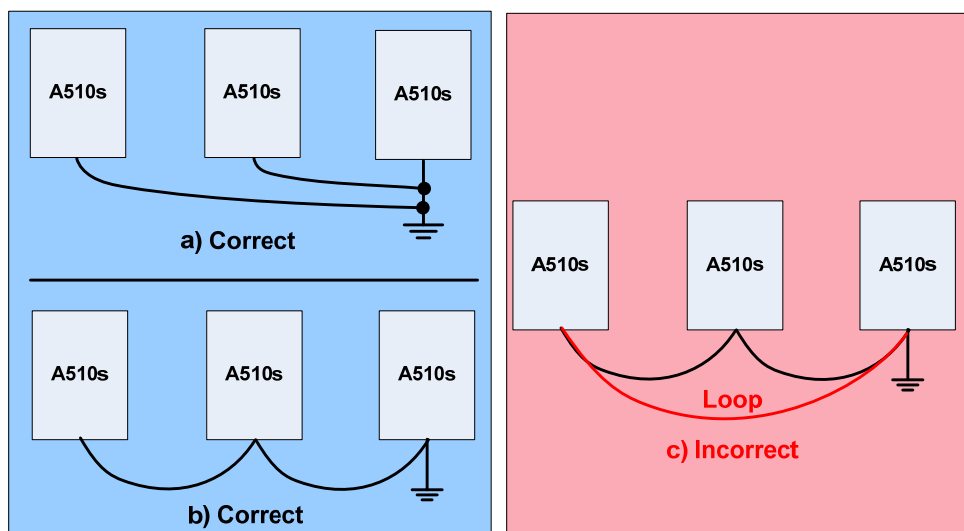

Fig. 3.12.1 Inverter Grounding
1. Connect the ground terminal (E) to ground having a resistance of less than 100Ω .
4. When using more than one inverter, be careful not to loop the ground wire, as shown below in Fig. 3.12.1.